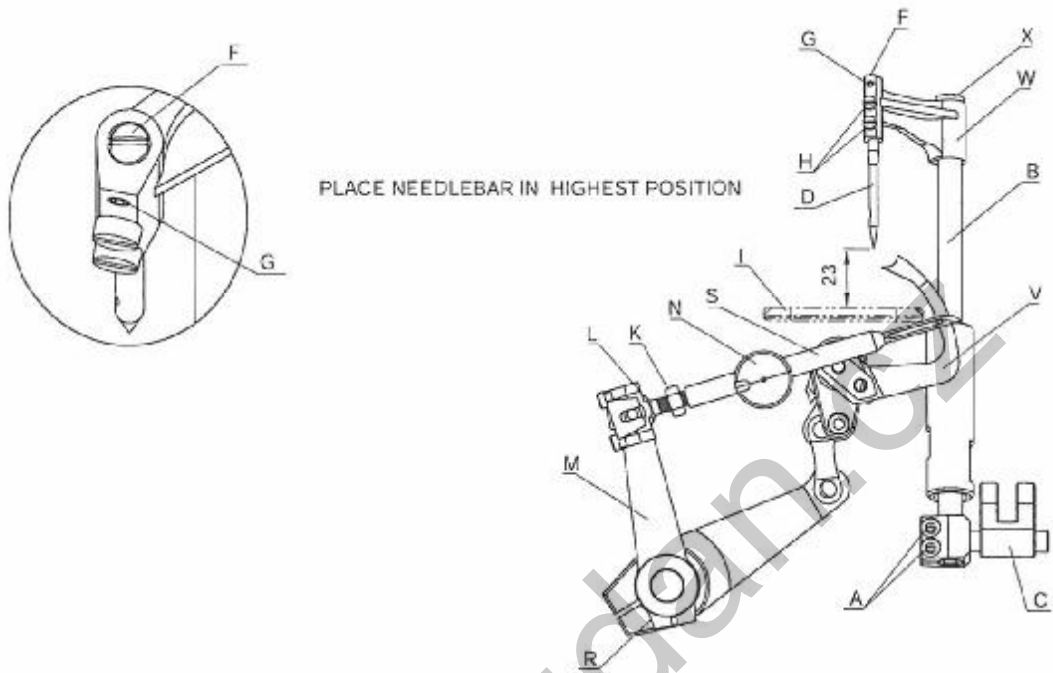

Fig. 4.1
1. Loosen the screw H (see FIG 4.1) and remove the needle.
With the needle having reached the top of its stroke, distance between the needle point and the needle plate must be exactly 23 mm (see FIG 4.1).
1. Loosen the screws H first while holding the needles by hand (see FIG 4.1).
1. Loosen the screws A and remove the worn out needle bar B (FIG 4.1) from clamp C.
8. In this position, the distance between the needle point and the needle plate (YH250601) must be exactly 23 mm (FIG 4.1).
1. Loosen the screws A in FIG 4.1. By doing this, the holder C will loose its grip on needle bar B (FIG 4.1).
4. Verify, by turning the hand wheel by hand, if the needle is moving up and down right in the centre of the needle plate (Fig 4.1 Detail).